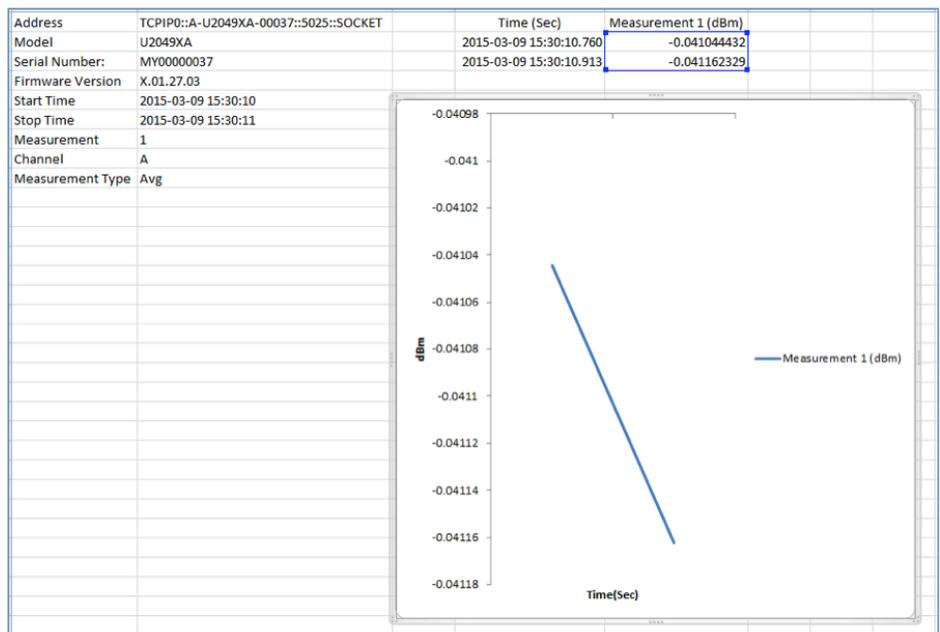

Figure 27. Microsoft Excel will auto open to view the data log of the measurement
17. Export the data logging data into Microsoft Excel (see Figure 27)	At the bottom of right hand corner, click on {  } and select "Microsoft Excel". From Export Data to Excel menu, specify the path to save the data log file and click "OK"